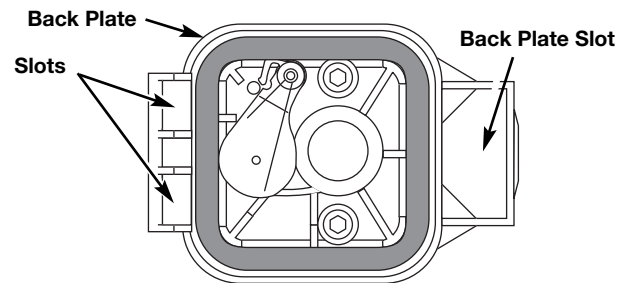

Fig. 32
6. Replace the filter (Fig. 32).